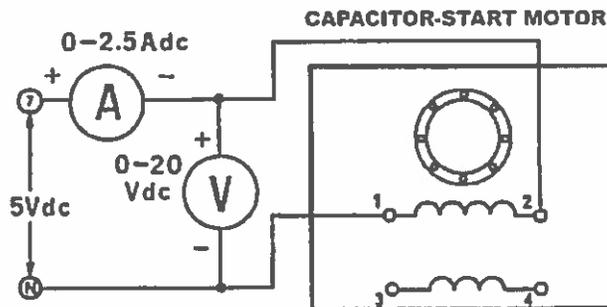

Figure 31-1
6. Using your Power Supply, DC Voltmeter/Ammeter and Capacitor-Start Motor, connect the circuit shown in Figure 31-1.